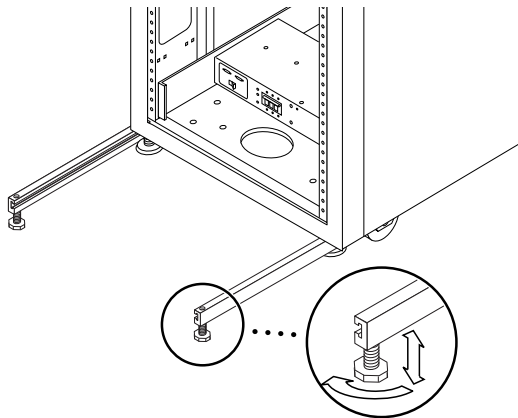

FIGURE 1-4 Adjusting The Leveling Pads on the Stabilizer Leg
6. Use the leveling wrench and adjust the feet on both stabilizer legs so that they touch the ground (FIGURE 1-4).